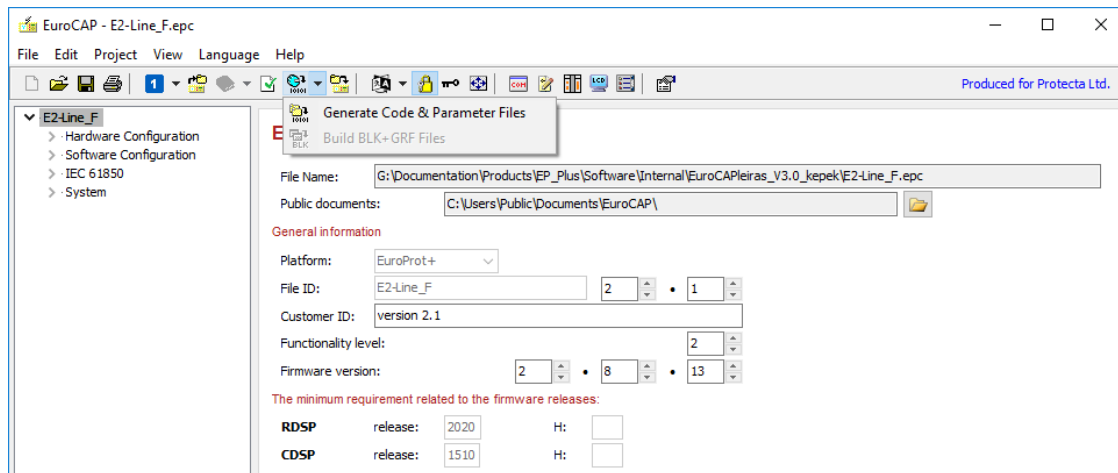

Figure 2-5 The “Build” menu
-  for building a downloadable version of the configuration. The alternative method of building is to select “Project / Build Files” from the menu. This icon or menu item opens a selection menu (see *Figure 2-5* below): This menu offers generating the downloadable code and parameter files.